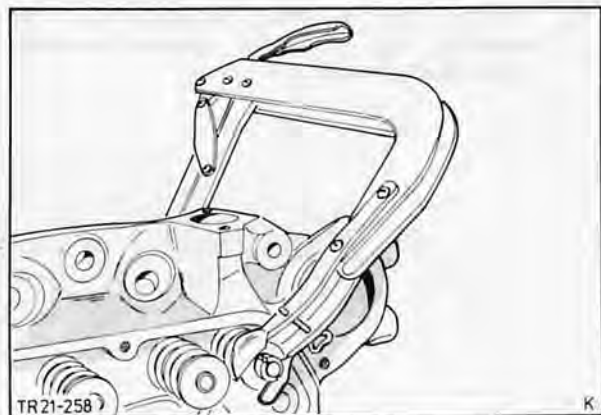

Fig. 148. Removal of valve springs, using standard valve compressor
3. Compress valve springs and retainers using standard valve spring compressor and remove collets. Fig. 148.